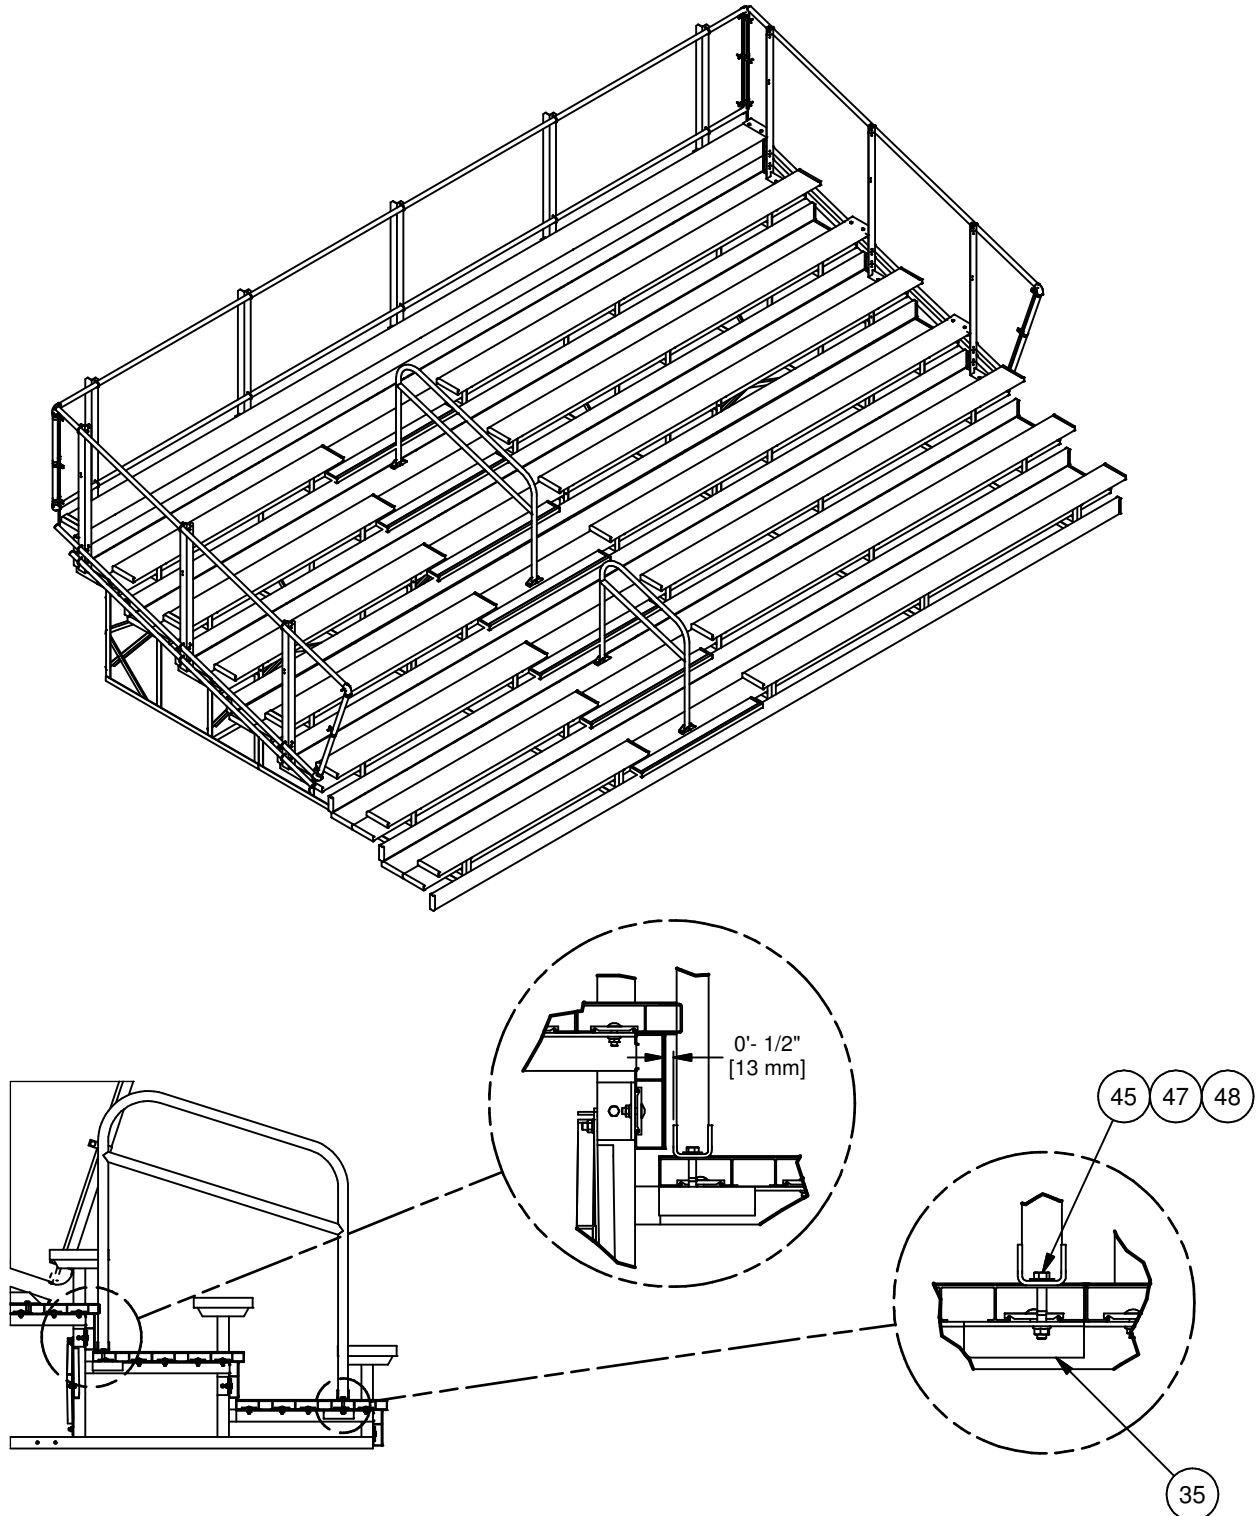

Figure 15
21. Install the hand rails in the center of the aisle. The hand rails will be located at foot rows 2 and 3, 5 and 6, and 8 and nine. See figure 15 for reference.